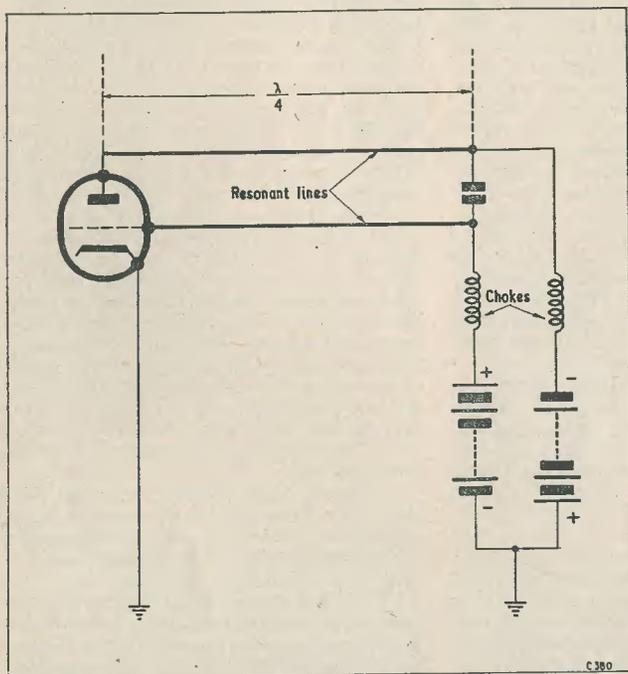
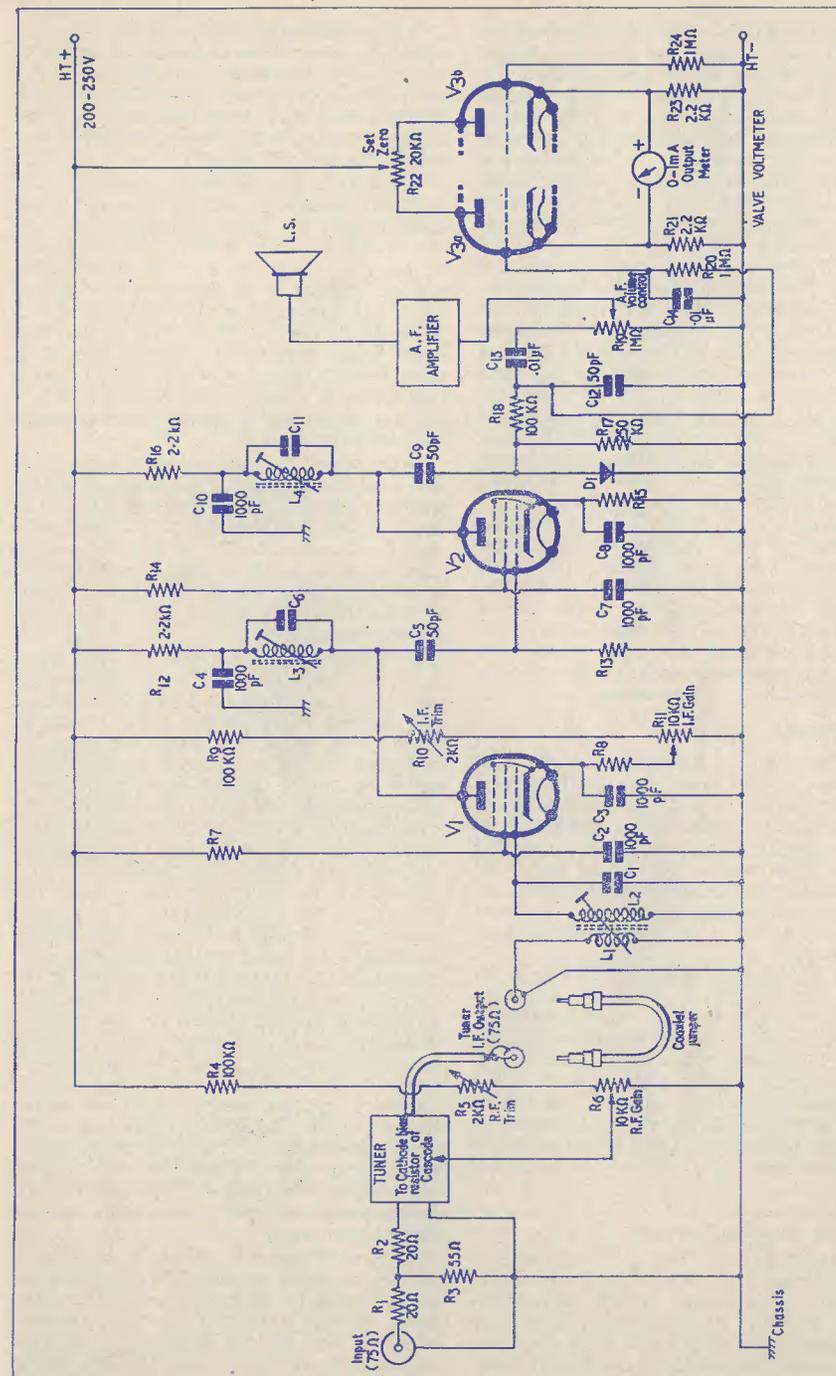

Fig. 1. One of the basic forms of the Barkhausen - Kurtz oscillator
Fig. 2. A practical circuit for a home-built field strength meter.
"It is possible to take advantage of this movement of electrons in the triode by coupling a tuned circuit to the valve in the manner shown here." Smyth scribbled some circuits on a piece of paper. "But, since the movement of electrons in the triode is so very fast, it is only possible to get results if the tuned circuit resonates at a very high frequency. When the Barkhausen-Kurtz oscillator was originally developed, the tuned circuits employed usually consisted of a pair of resonant lines, or Lecher lines, cut to a quarter of the wavelength required, and running parallel to each other. In this sketch (Fig. 1) the resonant lines are connected to the anode and grid; and in this (Fig. 2) to anode and cathode. The anode and cathode connection is the better because these two electrodes are more truly in antiphase so far as the movement of electrons in the valve is concerned. But the anode and grid arrangement was, so far as I remember, more popular in the days when the circuit was used, probably because of the difficulty at that time of keeping a cathode really efficiently isolated from earth potential at high frequencies.
Fig. 2. Another form of the Barkhausen-Kurtz oscillator, in which the tuned circuit formed by the resonant lines is connected between anode and cathode of the triode
One of the basic methods of measuring field strength employs the arrangement illustrated in Fig. 1 (a). In this diagram a non-a.v.c. controlled receiver connected to an output meter is switched to the aerial employed for the test, and is tuned in to the desired signal. Its gain control is adjusted to give a certain reading on the output meter. The receiver is then switched from the aerial and coupled into the output of the signal generator. This is set to the same frequency as the desired signal, and its attenuators adjusted until the receiver output meter gives the same indication as it did with the signal. The strength of the signal is then equal to that of the signal generator output, the latter being read off its attenuators. This process makes the reasonable assumption that the receiver does not drift in frequency or gain whilst being switched from the aerial to the signal generator. It is also assumed that the impedances of the receiver input, the signal generator output, and the aerial are all equal. This latter is a factor which is not always so easy to ensure as it may appear at first sight. However, the inaccuracies given by mismatching may usually be alleviated somewhat by inserting resistive pads between points where impedance is doubtful, and allowing for the attenuation given by these in final calculations.
The arrangement shown in Fig. 1 (a) gives reliable results; but individual readings take a little time to carry out. A slightly quicker method is illustrated in Fig. 1 (b). In this diagram a calibrated attenuator is fitted to the receiver (normally at its input, as shown in the diagram). The receiver is tuned to the desired signal, after which its input is transferred to the signal generator, this being set to give an output of standard amplitude. The receiver gain control is next adjusted so that a certain output reading is given when the attenuators are set to a reference figure of, say, zero db. The receiver is then returned to the aerial and the attenuator readjusted until the same level is shown by the output meter. The strength of the input signal (as compared with the standard output of the signal generator) can then be read off the receiver attenuators. The advantage of this second method of reading signal strength is that the signal generator has to be referred to only at the beginning of a series of readings on a single frequency.
Most commercial field strength meters employ the arrangement shown in Fig. 1 (b), in which the attenuators are integral with the receiver. A source of standard signal strength is also provided in the same cabinet, this sometimes being obtained from a noise generator, or similar device.
From the amateur point of view the provision of attenuators and a source of standard signal strength raise difficulties. Firstly, it is not easy to obtain reliable attenuators (reliable, incidentally, at Band III as well as Band I) which are calibrated in db's. Secondly, the provision of a source of constant signal cannot be constructed with any certainty without access to laboratory equipment. For this reason, the writer suggests that, from the home-constructor viewpoint, the arrangement shown basically in Fig. 1 (c) would provide quite a good compromise between cheapness and a high degree of absolute accuracy. If carefully made, the accuracy of the equipment shown in this diagram should not fall too far short of that given by much more expensive laboratory-type instruments. These, incidentally, would give no greater usefulness, so far as comparative readings were concerned, than does the simple device we are considering.
The idea behind the device shown in Fig. 1 (c) is that, when it is required for checking absolute values of signal strength, it is connected to the aerial and tuned in to the desired signal. With the i.f. gain control set to maximum, the r.f. gain control is next set to give a pre-arranged reading on the output meter. The signal strength is then read off the dial of the r.f. gain control, this having been previously calibrated. If the signal is so strong that it cannot be sufficiently attenuated
Fig. 1 (a). A basic method of reading signal strength at an aerial. (b) An alternative method of measuring signal strength. (c) A simple field strength meter, suitable for home-construction, which is discussed in the text.
Fig. 2 gives the basic circuit of a typical home-built f.s. meter using the ideas detailed above. There are several items here which need a little further explanation.
The r.f. and mixer stages in the instrument raise the major difficulty to be encountered. This is due to the fact that a high degree of gain is essential here. Fig. 2 shows a box labelled "tuner" for these stages, the author having in mind such a unit as the Valradio tuner, or a turret tuner. There are a number of manufacturers' surplus turret tuners on the market these days, and provided that the unit chosen employs a cascode and triode-pentode circuit to give the gain needed, one of these might represent a profitable buy in this application. The tuner employed is almost certain to have the cathode bias resistor of the cascode brought out to a separate terminal for connection to a gain control; whereupon the r.f. gain control circuit of Fig. 2 may be used. The gain control values shown in Fig. 2 (R_4 , R_5 and R_6) should, normally, enable sufficient gain to be obtained at the minimum setting without the input signal falling below the noise level of the mixer.
If the sound i.f. strip is not a.v.c. controlled, a valve-voltmeter, or a simple home-constructed equivalent such as is shown in Fig. 2 could be connected across the diode load. The sound i.f. strip can then be employed for signal strength measurements either by tuning in the receiver normally (whereupon the indicating device shows the strength of the incoming sound carrier), or by adjusting the receiver oscillator such that the vision signal is injected into the sound i.f. strip (whereupon the indicating device shows the strength of the vision signal). The second method is preferable when aerial experiments on Band I are being carried out, because it ensures that the aerial is being adjusted at the correct operating frequency. At Band III, however, it might be found that the proportionately small difference in frequency between sound and vision carriers does not make it worth while detuning the receiver oscillator in this manner. (There is the further point, incidentally, that the sound carrier maintains a steady strength during programme hours, whilst the vision signal may vary considerably during such times, it being steady only whilst test cards, etc., are being transmitted).
Finally, it should be mentioned that, when a television receiver is used for signal strength measurements, a resistive input pad, at the aerial socket, such as that given by R_1 , R_2 and R_3 of Fig. 2, is a desirable adjunct in order to ensure accurate matching.
R.M.A. 4-dot code. These are rated as above at 500 volts and are read the same. The dot above the value is the tolerance rating. See Fig. 2.